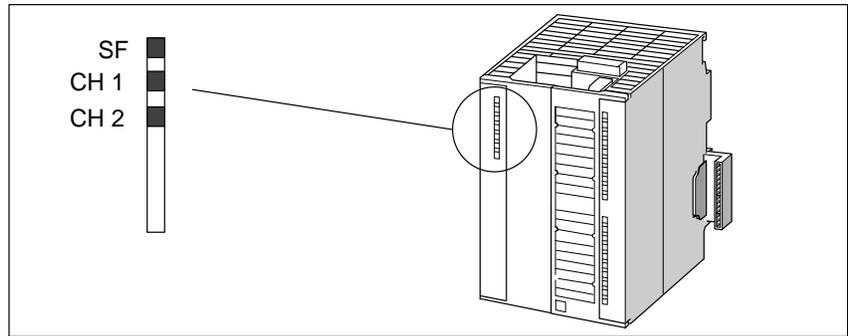

Figure 11-1 Status and Error Indicators on the FM 351
- the LED “SF” (see following Fig. 11-1) does not go out and
- Lighting the LED “SF” (see Fig. 11-1).